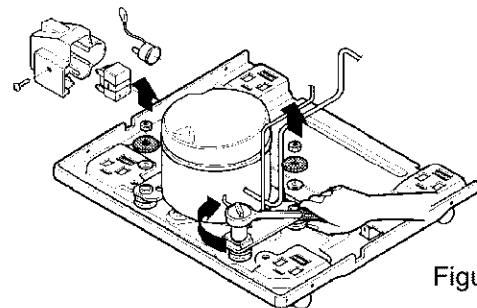

Figure 19
4. Remove the overload protector (O.L.P) or P.T.C. assembly. (See Figure 19.)